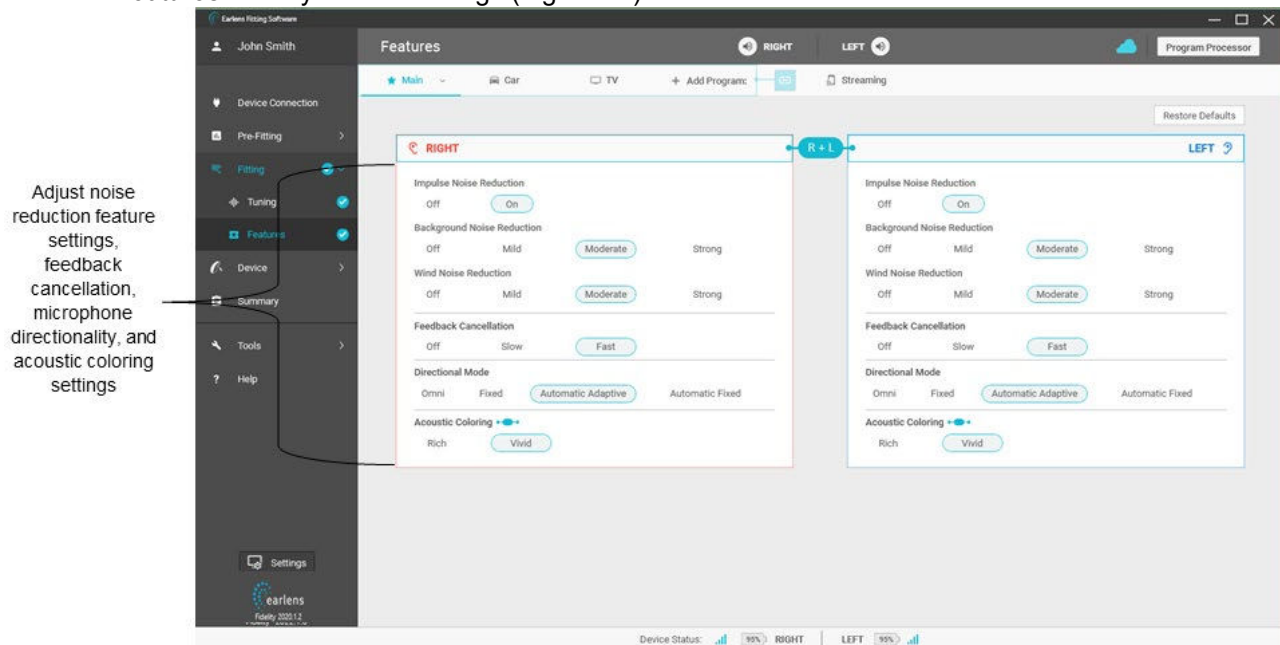

Figure 17: Features screen
- **Features:** Modify feature settings (Figure 17).